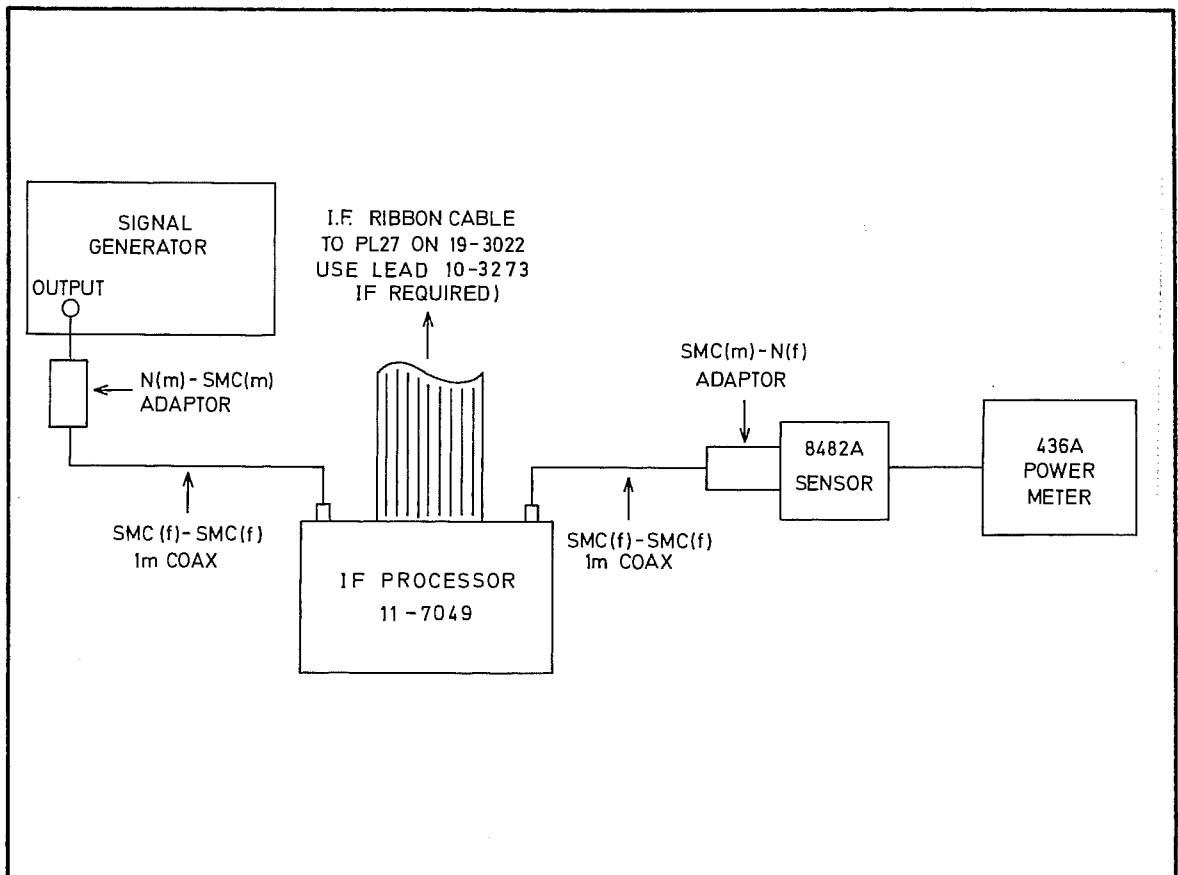

Fig. 7.12 Connections for Channel C Input System Adjustment (Pt. 3)
- (4) Switch off the 2101. Disconnect the IF input and output coaxes at PL39 and PL6 on the IF module. Connect the equipment as shown in Fig. 7.12.